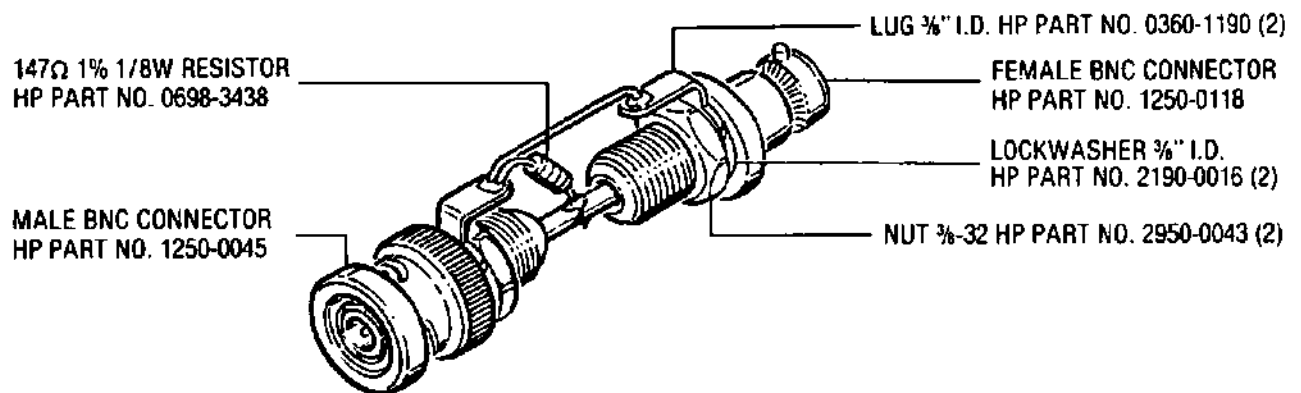

Figure 5-34. Pulse Shunt Adapter
Shunt Adapter .....	Fabricated Locally (see Figure 5-34)
23. Connect channel 2 to the shunt adapter (Figure 5-34) output as shown in Figure 5-35. The cable between the oscilloscope and the shunt adapter must not be longer than 24 inches.
Pulse Shunt Adapter .....	Fabricated Locally (see Figure 5-34)